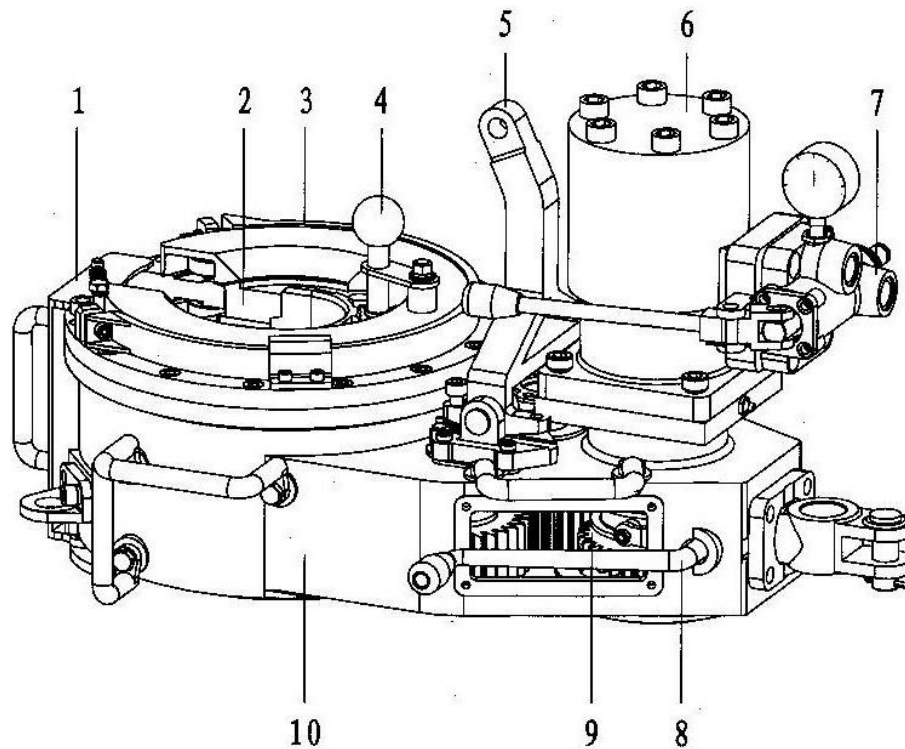

Fig 6
9.2 Master tong and parts list (Fig 6, Table 2)